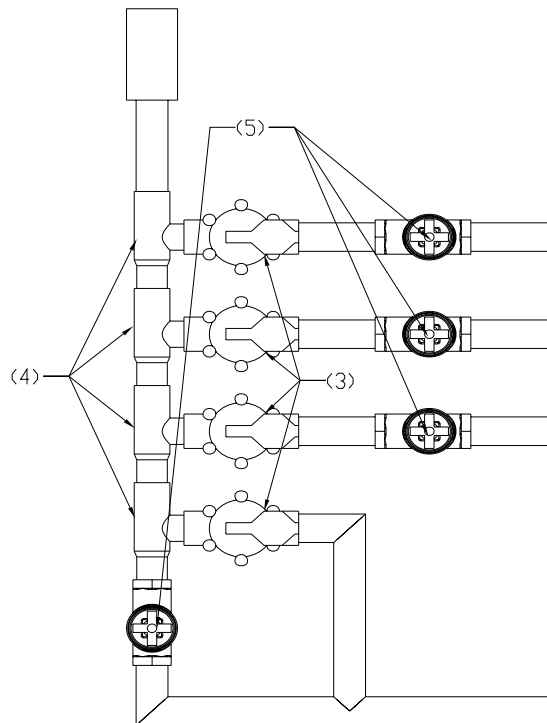

FIGURE 8
1. **ADDITIONAL GLOBE VALVES:** To help control the height of each individual zone it is required that a 1" Globe Valve (5) be placed after each 1" HPV Valve (3) as shown in **FIGURE 8**. This allows the WetDek to be customized even more. Water heights can be set to the exact same level or setup on a tiered system that separates each zone by measured increments.